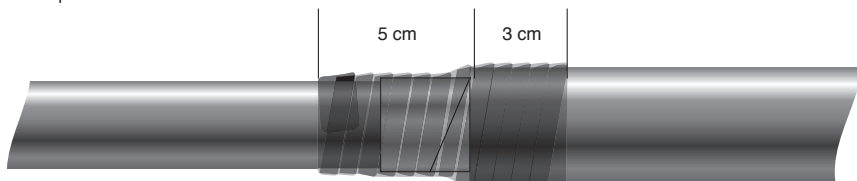

Figure 28.
8. Over wrap back towards the crimp end of the cable, again stretching the tape and with 50 % overlap, leaving 5 cm covering the outer copper screen tape and black insulation and 3 cm covering the black outer sheath. This should use approximately another 50 cm of the tape. Wrap another 2 layers, again stretched with 50 % overlap back up to where the black outer sheath ends, to build up the cable diameter and to smooth out transitions in diameter Figure 28. Cut the tape and press down firmly to ensure it amalgamates with the tape below it.